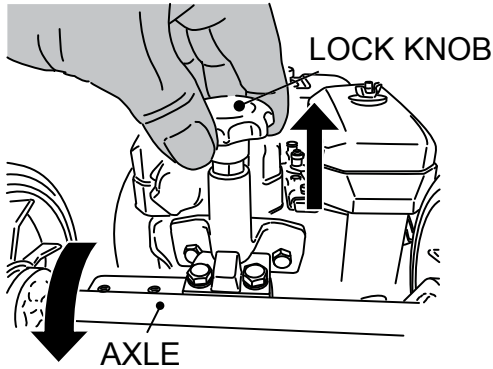

Figure 7. Releasing Lock Knob
1. Pull up lock knob to release the axle and let the wheels touch the ground (Figure 7).